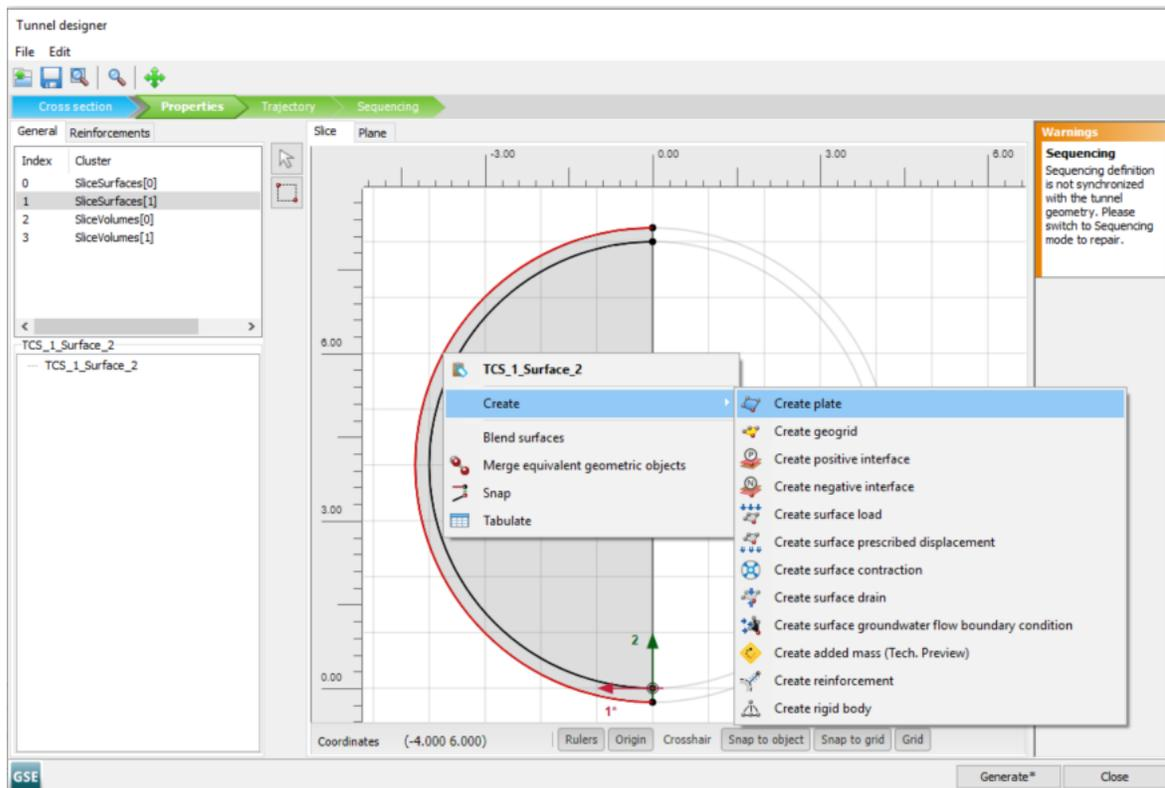

Figure 73: The Properties tabsheet of the Tunnel designer for the creation of a Plate
13. In the **Slice** tabsheet, right-click the outer surface and select **Create plate** from the appearing menu (Figure 73 (on page 100)).